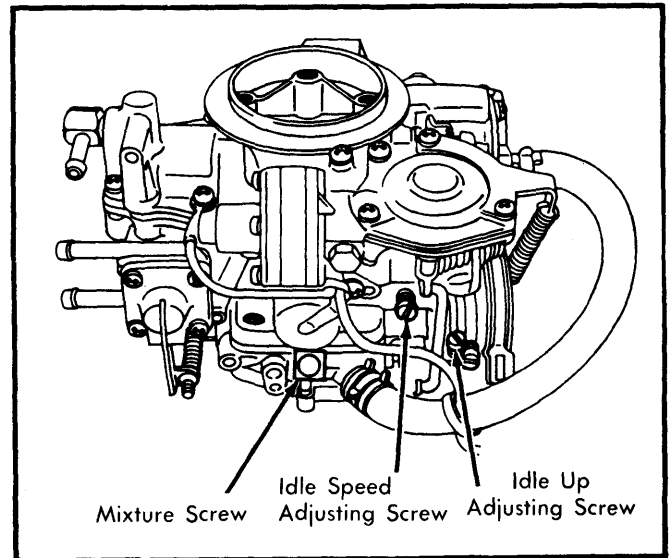

Fig. 3 Carburetor Adjustment Screw Locations (2.6L Engine — Shown With Choke Cover Removed)
2) Wait 1 minute and check idle RPM. To adjust, turn idle speed adjusting screw (through access hole in choke cover plate). See Fig. 3.